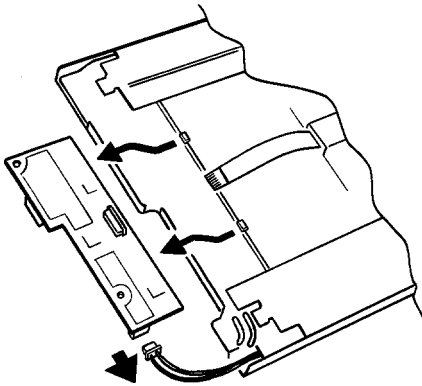

Figure 4.10.3c Circuit board removal (2)
- c. Taking all necessary precautions against static discharge, gently work the circuit board out, carefully avoiding damaging any of its components. Disconnect the illumination tube connector (figure 4.10.3c).